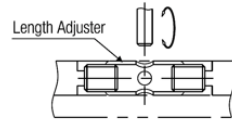

Fig. 4.
9. Adjust the bend in shutter by revolving the length adjuster by using the key as shown in Fig. 4